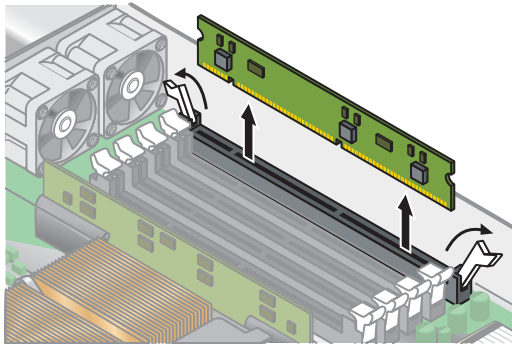

FIGURE 4-22 Removing a Memory VRM
3. **Remove a memory VRM by pressing down on the ejector bars at both ends of the socket (see FIGURE 4-22).**